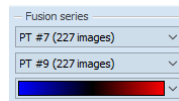

**Figure 315 – Series and color map selection**
1. Click the **Base series** combo box to select the primary series (see Figure 315).